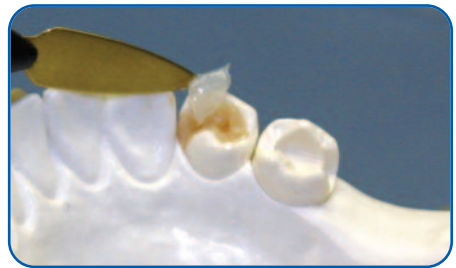

Fig. 6
9. Apply *Sculpture Plus* Incisal material to the marginal and triangular ridges. Use a more translucent incisal to blend with the adjacent natural tooth structure. (Fig. 6)